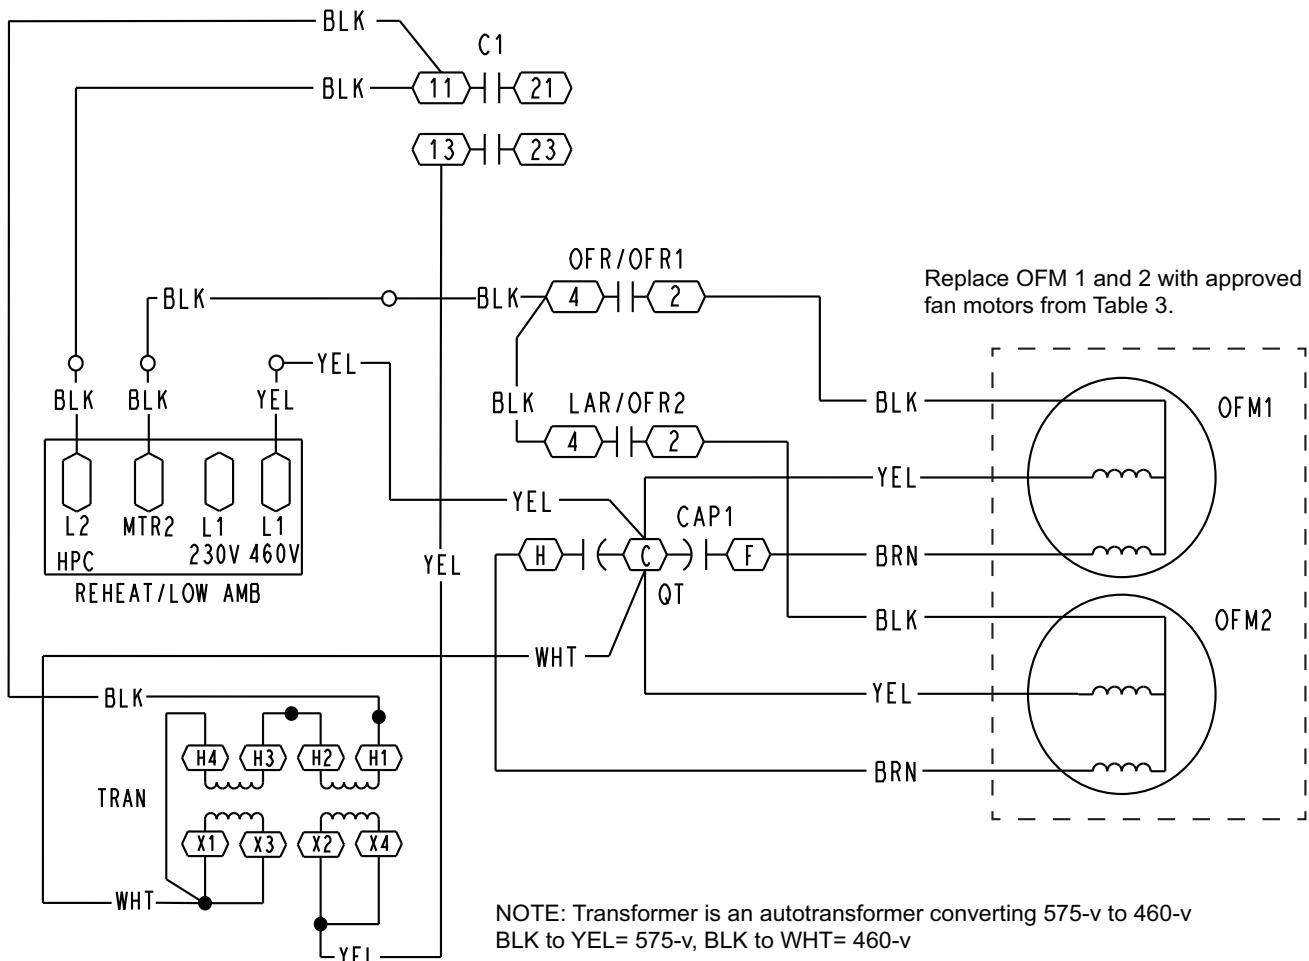

Fig. 6 – Cabinet A – High Voltage Wiring Diagram (575-v)
13. On 575-v units, refer to the transformer kit instructions for details on how to wire the transformer into the unit to match Fig. 6.
IMPORTANT: The transformer as wired in Fig. 6 has BLK to YEL=575-v and BLK to WHT=460-v.